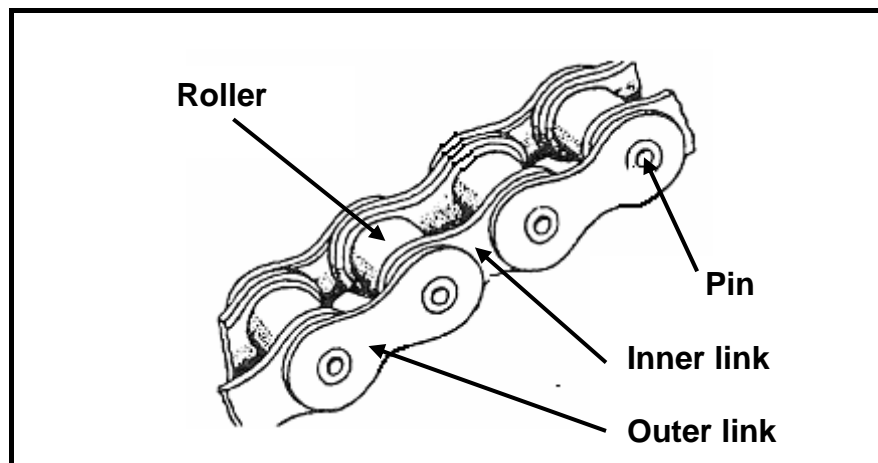

FIGURE 1.5
- 1.13 Identify the type of stress acting on the pin of the chain that is shown in FIGURE 1.5.